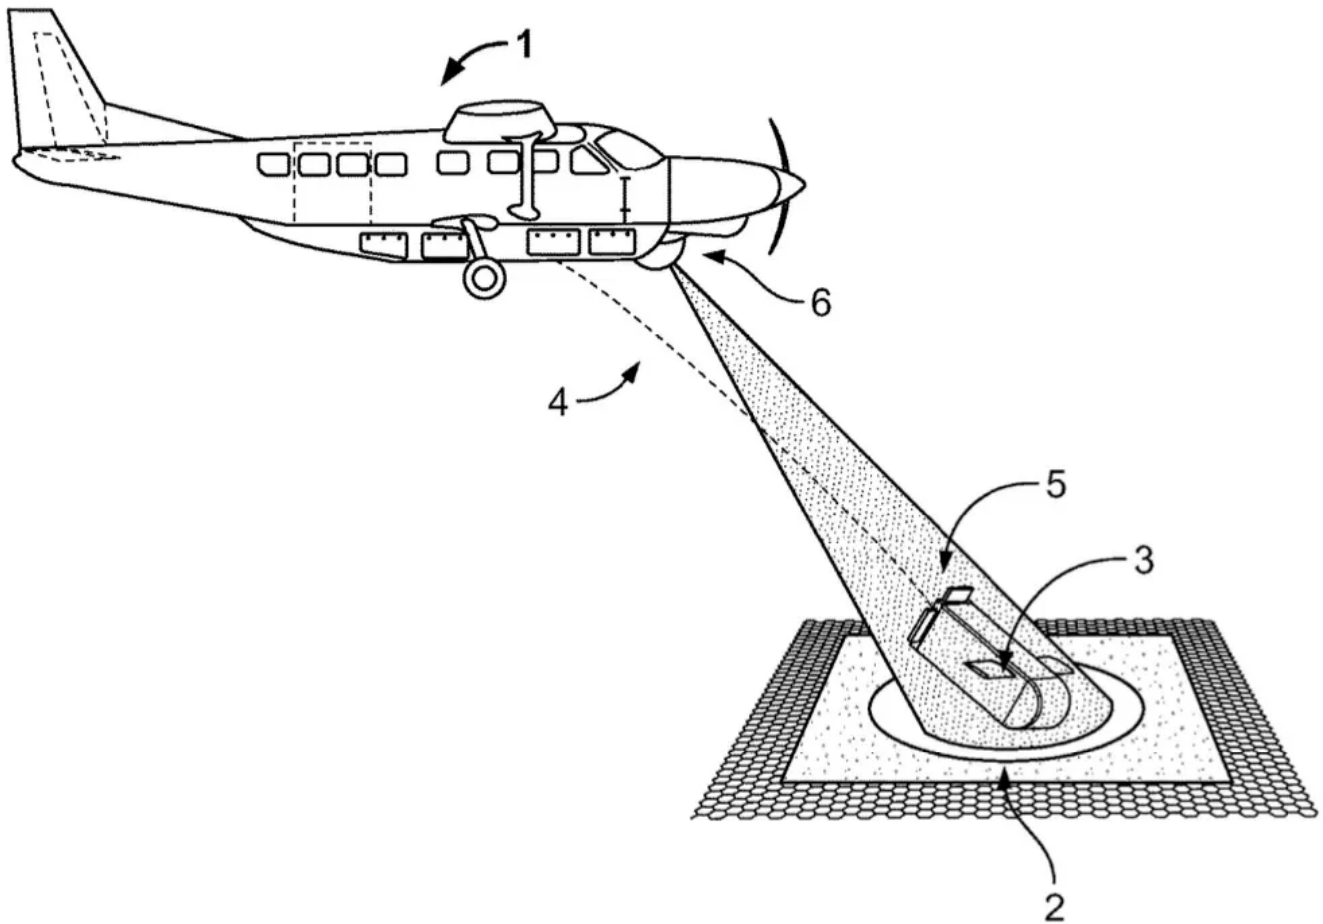

Fig.1
[0022] FIG. 1 depicts one embodiment of a mother ship and a DASH package being deployed from that mother ship.
[0027] As shown in FIG. 1, the system and method of the present invention possesses the unique capability of delivering cargo to a designated landing zone. In the present invention a mother ship (1) flies in the vicinity of a designated landing zone (2). Mother ship 1 may preferably be a fixed winged manned aircraft. In one embodiment, mother ship (1) may be an airplane. In that embodiment, the airplane may be a cargo plane, a military plane, a personal jet, or other plane. In other embodiments mother ship (1) may be other types of flying vehicles including helicopters or any other manned aerial apparatus. In an alternate embodiment, the DASH package may be launched from autonomous unmanned aerial vehicles. For example in that embodiment, a large drone could be employed as mother ship (1).
[0029] FIG. 1 depicts the DASH package (3) being deployed from mother ship (1). As shown, DASH package (3) maintains a preferred flight trajectory (4) toward the landing zone (2). DASH package 3 maintains flight trajectory (4) by deflecting control surfaces (5). Mother ship (1) includes two-way communication and sensors on a sensor pod (6). The communication devices and sensors on sensor pod 6 may preferably include GPS tracking devices and cameras. Other tracking and communications devices known in the art may alternatively be used.